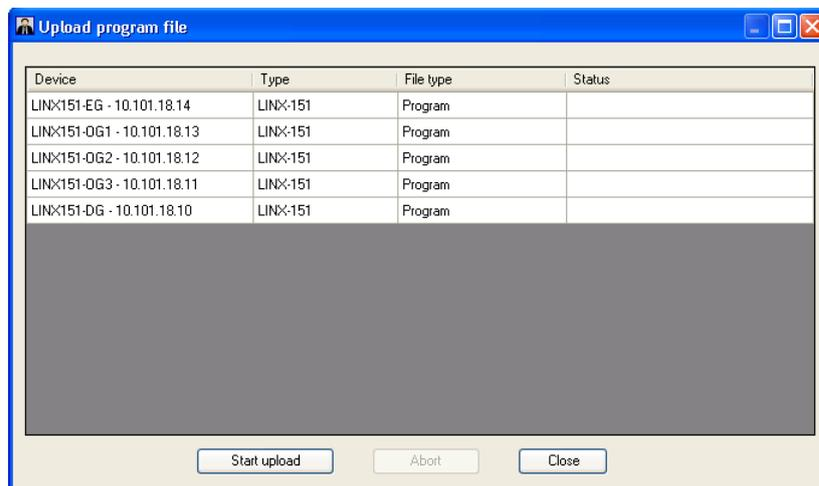

Figure 198: Upload Program File Dialog
3. The **Upload program file dialog** opens as shown in Figure 198. This dialog displays a list of devices and the program files which will be uploaded. To start the upload, press the **Start upload** button.